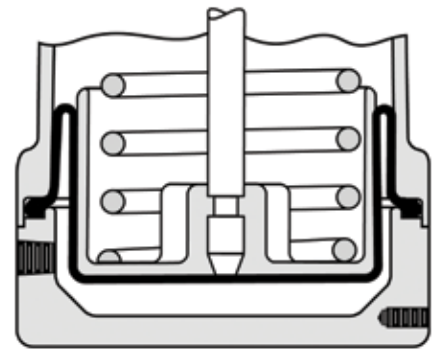

Figure 11
4. Fit diaphragm case (107) to the spring barrel after checking that air connection is on the correct side and that the threaded holes of the diaphragm case and the holes of the spring barrel line up. The bead must be clamped between lips of diaphragm case and spring barrel (see figure 11). Tighten four cap screws (106).